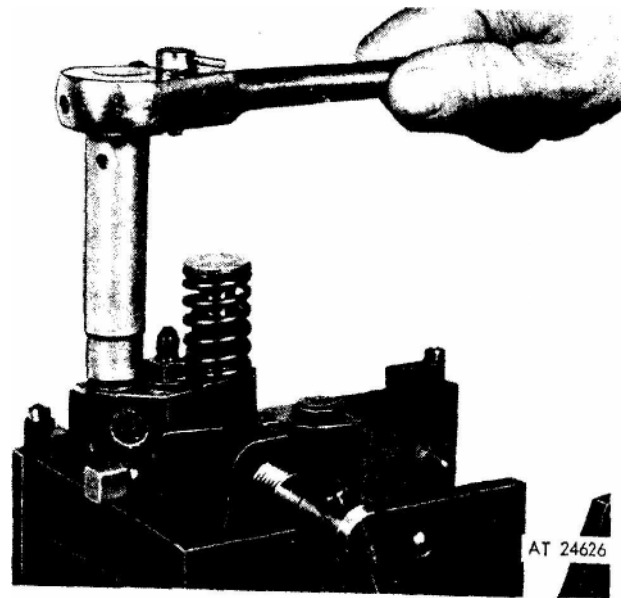

Figure 18. Removing or installing filter cap.
1. Support the injector upright in the injector assembly fixture, J 22396 (fig. 18), and remove the filter caps, gaskets and filter elements.
2. Place a new gasket on each filter cap. Lubricate the threads and install the filter caps. Tighten the filter caps to 65-75 lb-ft torque with a 9 / 16- deep socket (fig. 18).